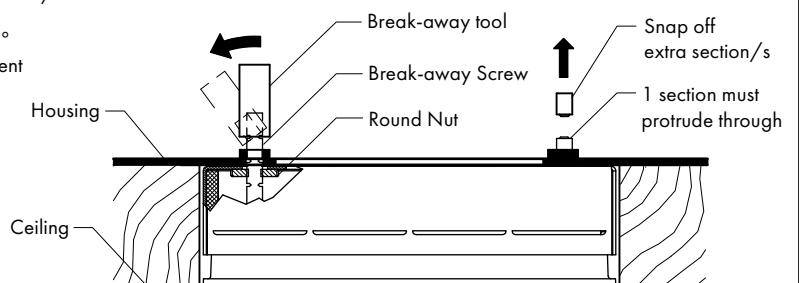

FIG 11.3 Fine adjust Trim Kit height & Break-away Screw height after installation
STEP 7 After completing height adjustment, break off Break-away Screw sections as needed to avoid interference with A & B lamping modules - **FIG 11.3**.
Adjustment Notes: Adjust each screw until Trim is level with ceiling & secure Trim position by hand tightening Round Nuts against Light Shield - **FIG 11.3**.
Slots in Trim screw bosses permit 6 deg of adjustment for aligning Trim Kit with ceiling opening, walls & other fixtures - **FIG 11.3**.